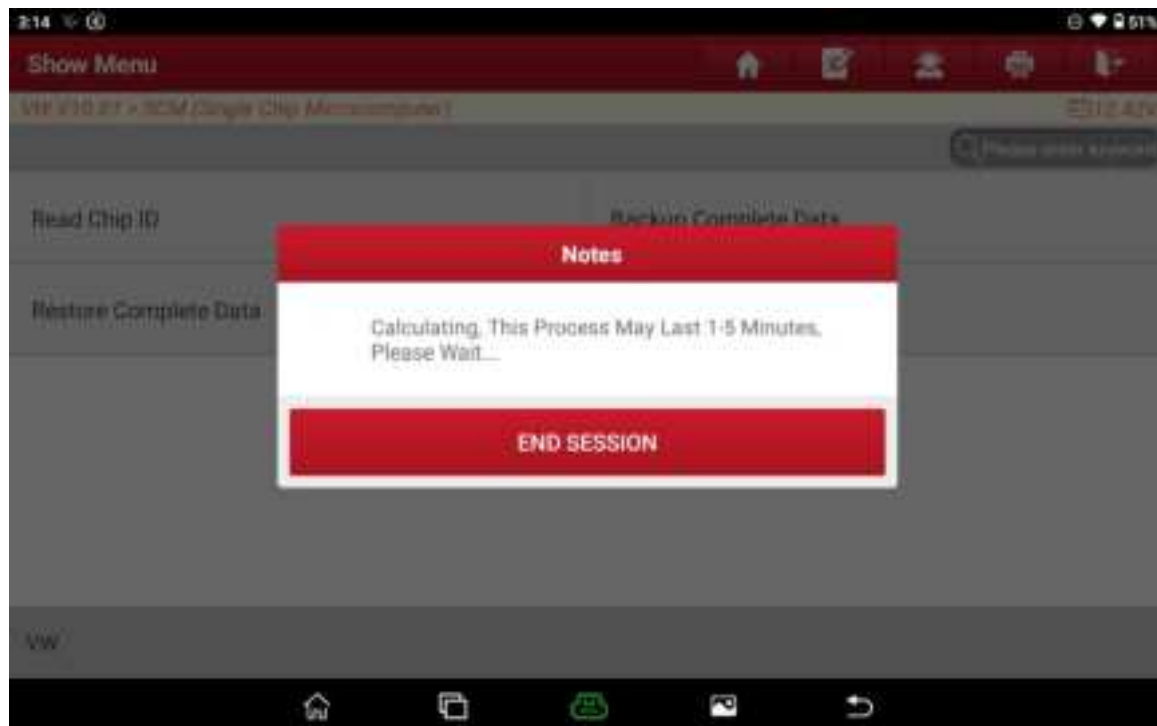

Figure 15
14. Reading the data...Please wait, as shown in Figure 15.